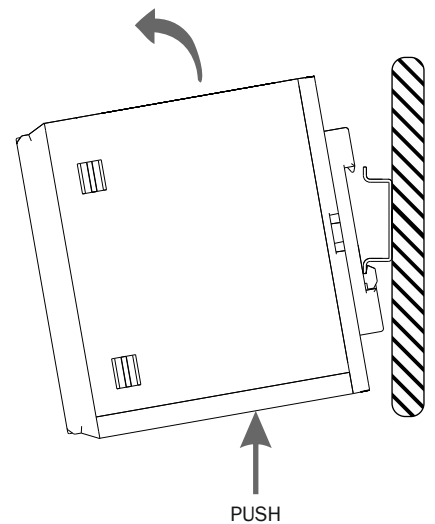

Fig. 2 - Removal Stage
- To remove the power supply unit, push the instrument upward and rotate it counterclockwise as per Fig. 2